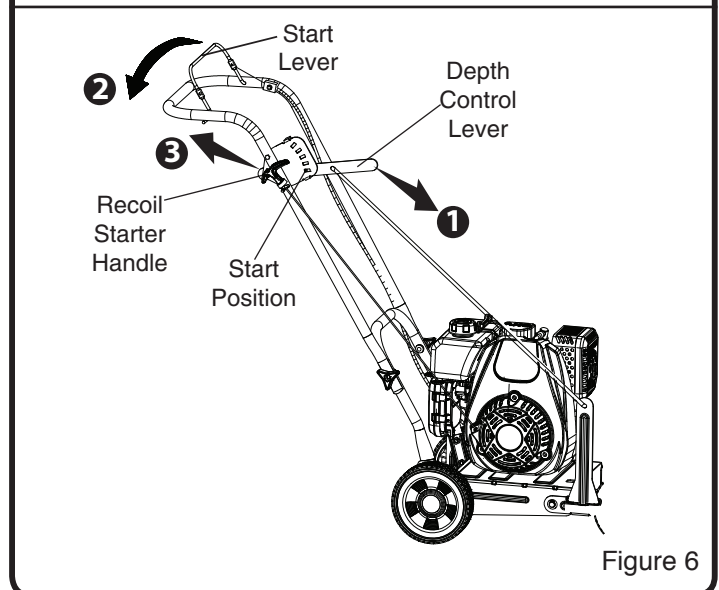

Figure 6
2. Move the Depth Control Lever to the Start Position. (See Figure 6-①)
4. Firmly grip the edger handle with your left hand, Pulling the Start Lever against the handle (See Figure 6-②) . **NOTE:** Engine will not start if the Start Lever is not pulled against the handle.
5. Firmly grip the Recoil Starter Handle with your right hand. (See Figure 6-③)
Release the start lever (See Figure 6). This will ground out the engine through the ground wire, causing the engine to stop.